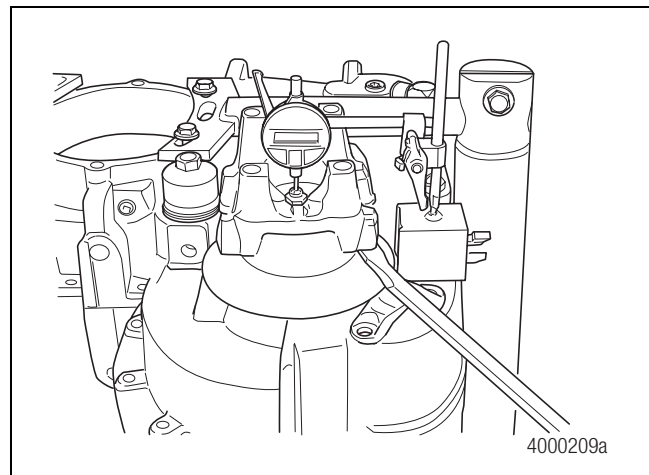

Figure 6.13
4. Set up a dial indicator to check the output shaft bearing end play. Center the dial indicator over the shaft using a ball bearing for accuracy. Figure 6.13.